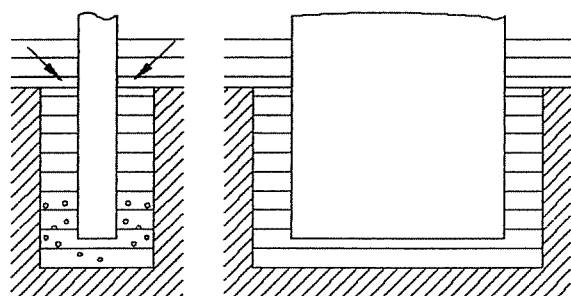

FIG. 4-9C
Side flushing must never be directed simultaneously from both sides of the electrode (Fig. 4-9c), since the two flows will tend to cancel each other out at the bottom of the cavity and particles are not flushed away.
- The electrode (C) is fixed to the bottom of chamber B.
- The aluminum plate is then passed over the electrode and fixed to the underside of the electrode holder, taking care that the flushing slots formed by the gap between the enlarged hole and the electrode allow flushing down on one side only to avoid opposite flushing as shown of Fig. 4-9c.